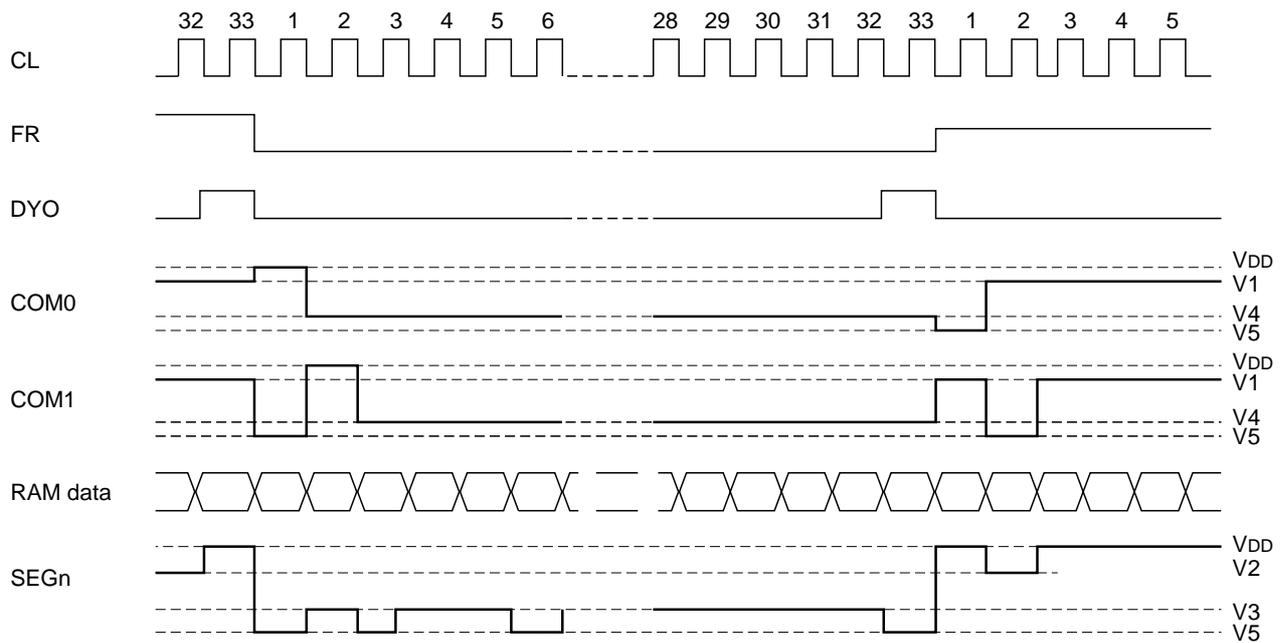

Fig. 6
When an AC signal (FR) is switched, a high pulse is output as a DY0 output at the training edge of the previous display clock. Refer to Fig. 6. The DY0 output is output only in master mode. When the S1D15300 series is used for multi-chip, the slave requires to receive the FR, CL, DOF signals from the master.